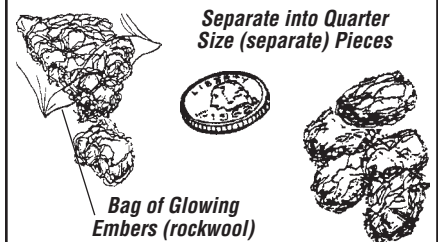

Figure 51
4. **Placement of Glowing Embers** - Separate the Embers (rockwool) into pieces about the size of a quarter (see *Figure 51*). Keep the pieces fluffed up, not matted. Distribute these pieces over the surface of the burner, as shown in *Figure 52*. Do not use more than is necessary. Ensure that the main burner slots remain uncovered by the ember material.